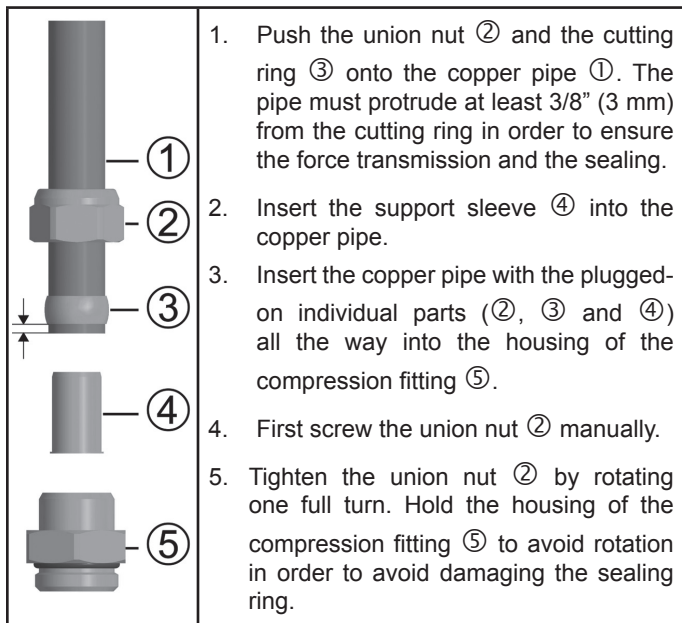

Figure 24.
2. Remove the front cover (D) of the solar station and slide off the premounted solar controller (A).
3. Remove the retainer clips behind the isolation ball valves (J, Q) with a flat head screw driver to free the mounting plate from the station (see Figure 24).